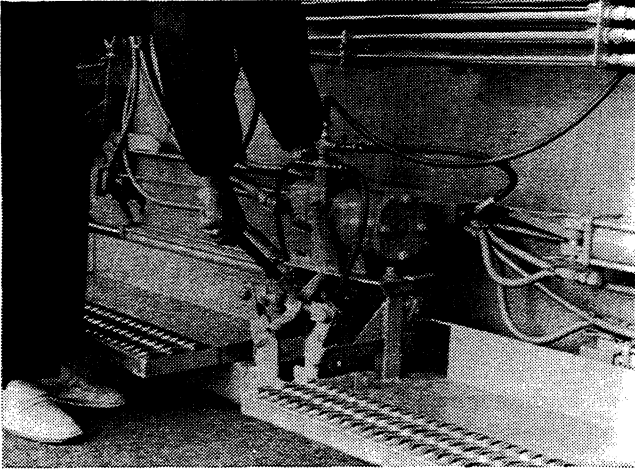

Figure 4-16 – Adjusting Crown
- B. Remove crown handle from holder and insert it into opening on control as shown in Figure 4-16.